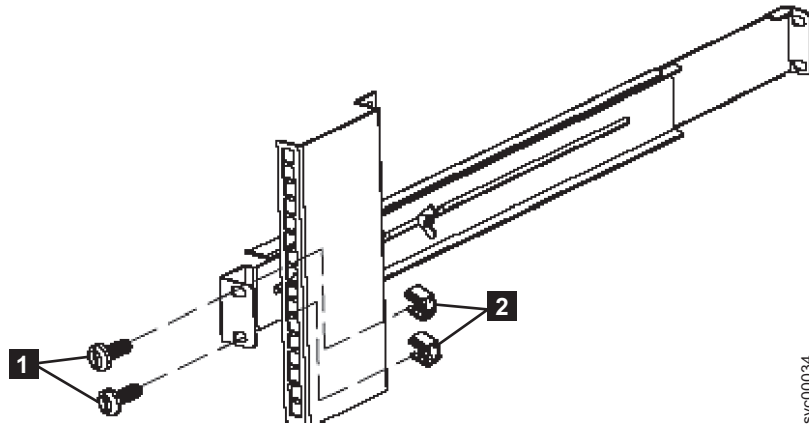

Figure 328. Securing the rear rail on the 2145 UPS-1U
6. Using two M6 × 10 screws (**1** in Figure 328) and two clip nuts **2**, attach the rail to the rear of the rack. The customer's rack might be different than the one shown here, and if so, might require different clip nuts or fasteners.